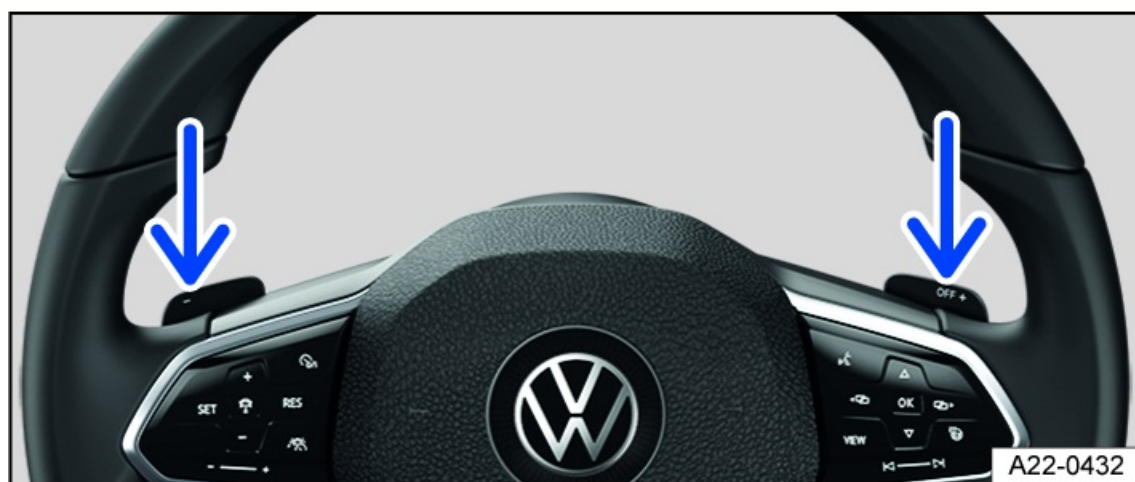

Fig. 101 Behind the steering wheel: shift paddles for the tiptronic.
1. Pull the right shift paddle toward the steering wheel to shift up *fig. 101*.